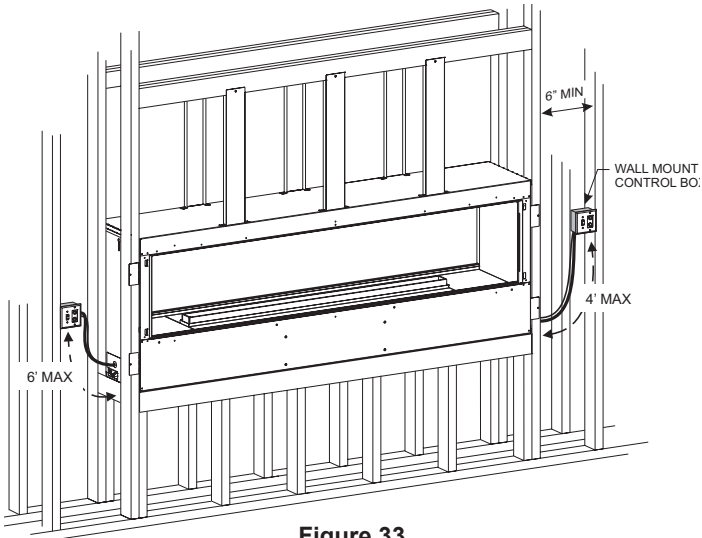

Figure 33
12. Install the wall-mounted control box within 6 feet to the left side or 4 feet from the right. See Figure 33.